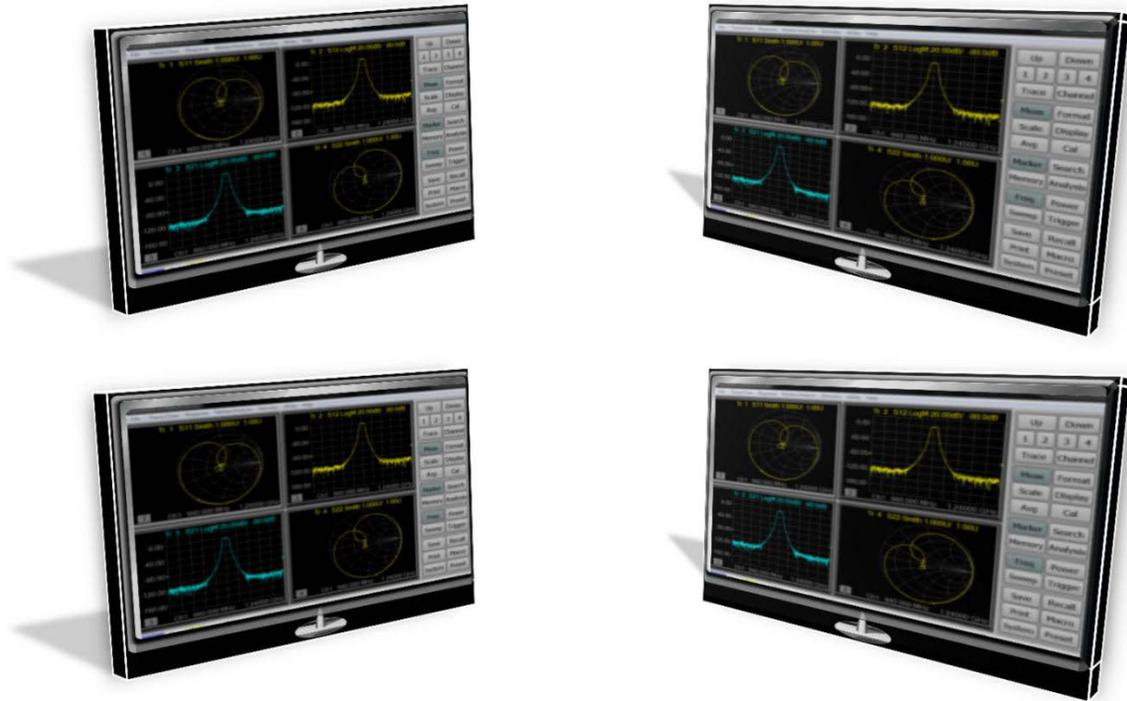

Figure 7. Allocate each instance of the PXI VNA in each touch screen display.
2. Drag and drop each instance of the PXI VNA soft front panel in each display as shown in **Figure 7**